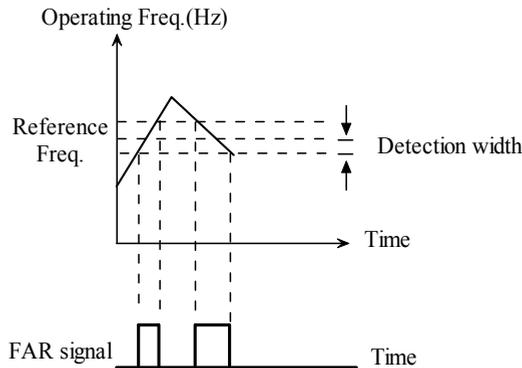

Fig. 5-3-8 FAR detection diagram
- ◆ This function used to adjust FAR detection bandwidth, when the output frequency reaches to the reference frequency. The adjusted range is from 0 to ± 10.00 Hz of reference frequency. If the ac drive's output frequency is within the detection width of reference frequency, a pulse signal will be output, as shown in Fig. 5-3-8.